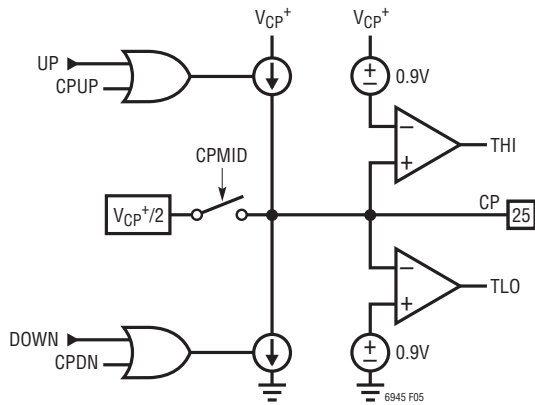

Figure 5. Simplified Charge Pump Schematic
The charge pump, controlled by the PFD, forces sink (DOWN) or source (UP) current pulses onto the CP pin, which should be connected to an appropriate loop filter. See Figure 5 for a simplified schematic of the charge pump.
The CPCHI and CPCLO bits found in register h0A enable the high and low voltage clamps, respectively. When CPCHI is enabled and the CP pin voltage exceeds approximately $V_{CP}^+ - 0.9V$, the THI status flag is set, and the charge pump sourcing current is disabled. Alternately, when CPCLO is enabled and the CP pin voltage is less than approximately $0.9V$, the TLO status flag is set, and the charge pump sinking current is disabled. See Figure 5 for a simplified schematic.